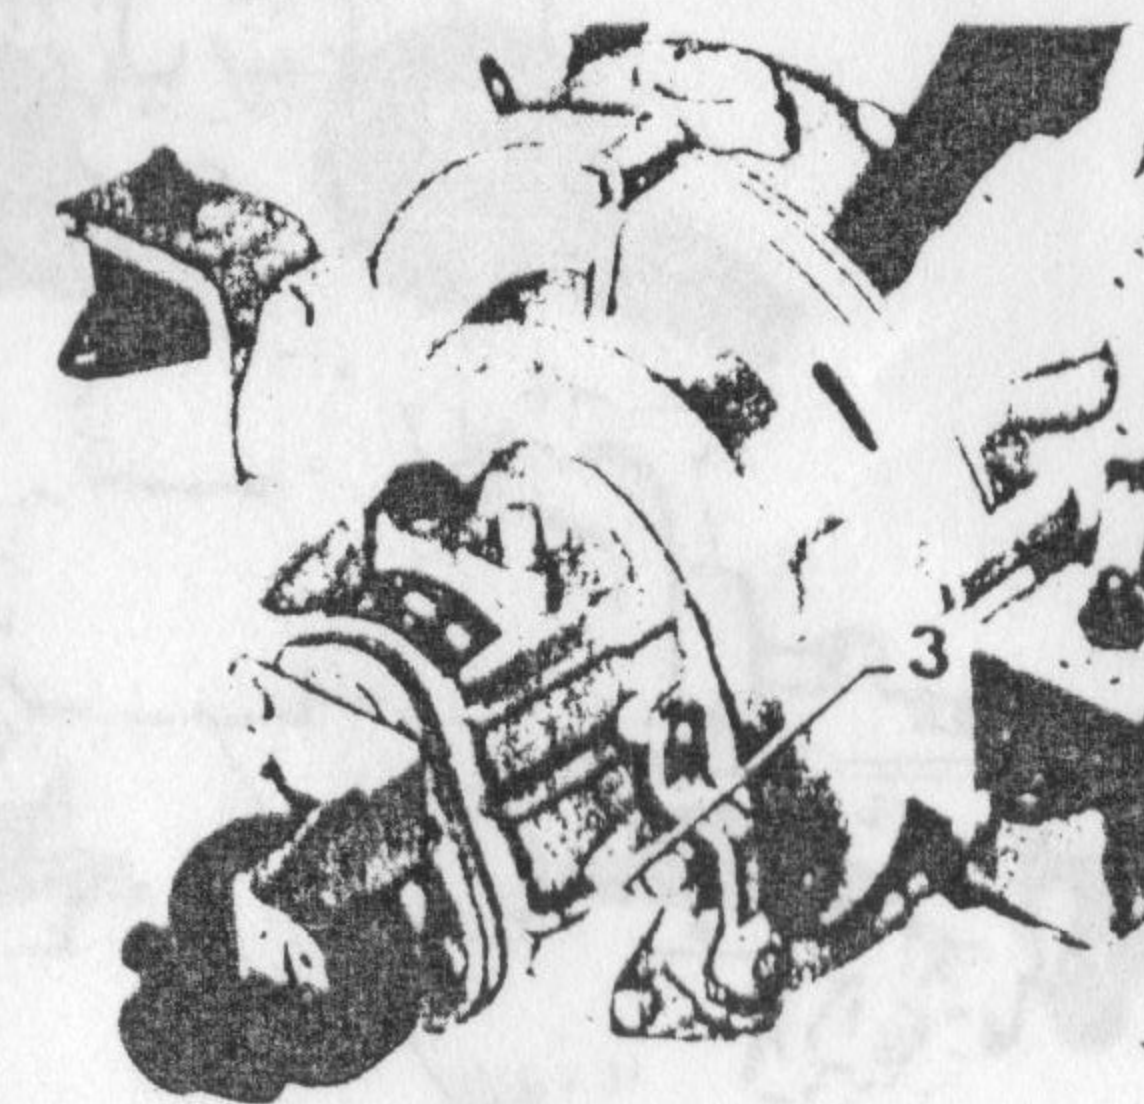

Fig. A 5
2.3. Inverseur (fig. A 5)
2.3. Forward and Reverse Gearbox (fig. A 5)